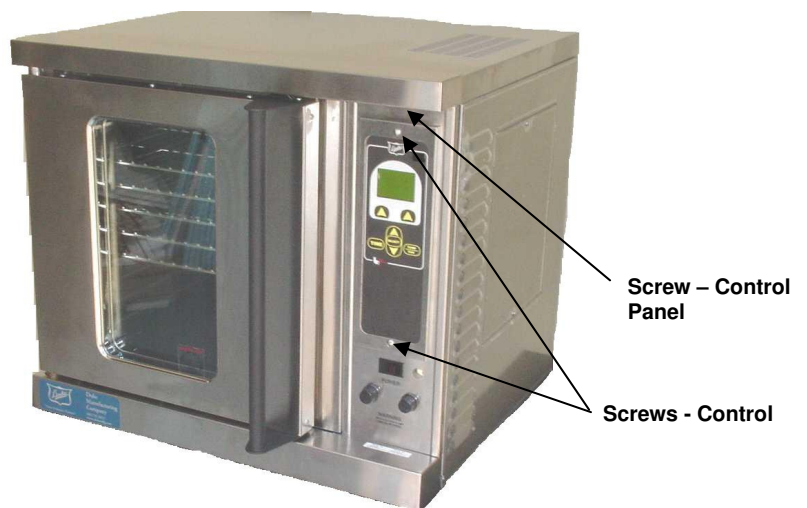

Figure 2 Control/Control Panel Removal
- 3) Remove the two screws from the front of the control (See Figure 2) and slide controller out slightly to expose electrical connections.
- 4) Disconnect (3) three connectors from the back of the board along with the ground connection and slide control out of control panel.
- 6) Remove screw from top of control panel (See Figure 2) and rotate control panel outward. This will give you more room to work.